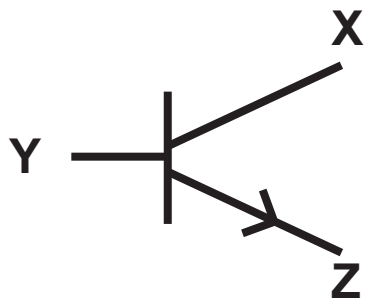

Fig. 4
- (c) (i) Name the electronic component represented by the symbol in **Fig. 4**. [1 mark]
- (i) Complete the circuit to enable a buzzer to operate when required. Your solution should include the symbol shown in Fig. 4, a buzzer symbol, a diode symbol and the one additional component symbol needed. [6 marks]